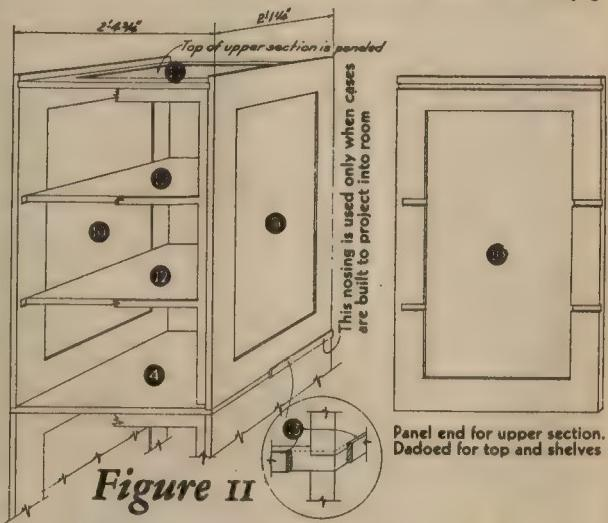

Figure 11
This forms a continuous counter shelf and covers space behind casing on each side of cabinet. If upper section is to be used over lower section reverse counter Top No. 4 so that dadoes (slots) will receive bottom edges of Paneled Ends Nos. 9 and 10 of upper section, as shown in Figure 11 and rip off projection of counter shelf flush with Paneled Ends.
- 1.—Paneled Ends Nos. 9 and 10 are dadoed (slotted) to receive shelves Nos. 12 and Top No. 11. Put these parts together as shown in Figure 11.